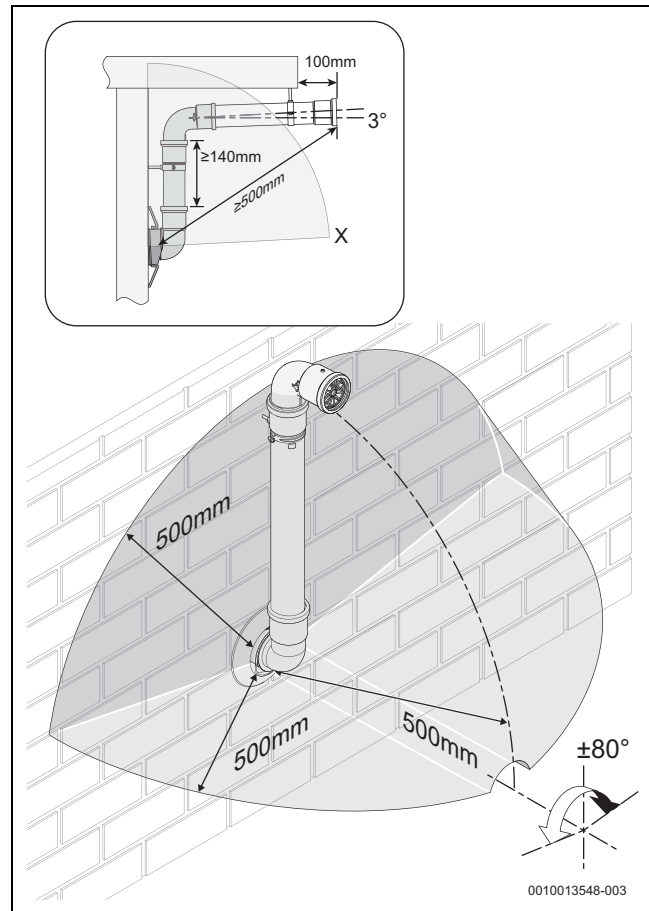

Fig. 31 Terminal exclusion zone
- ▶ Do not terminate the plume management inside the terminal exclusion zone (shaded area) shown in figure 31.